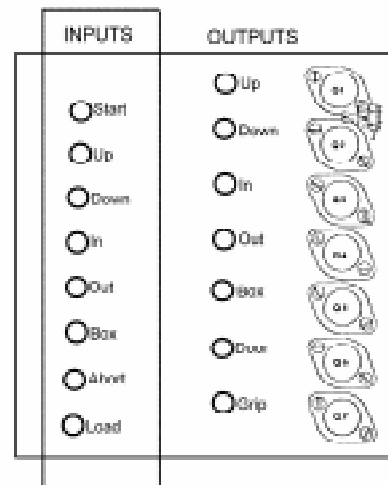

Figure 52B
5. Turn Adjusting Screw to move switch down until "DOWN" light at logic board (See Figure 52B) just goes out.